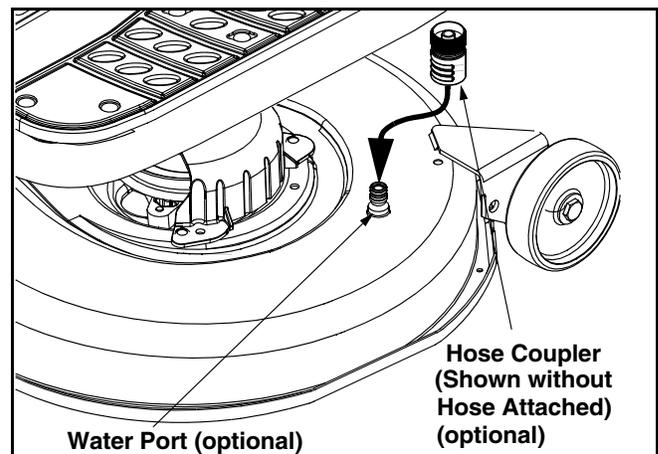

Figure 17
4. Attach the hose coupler to the water port on your deck's surface. See Figure 17.